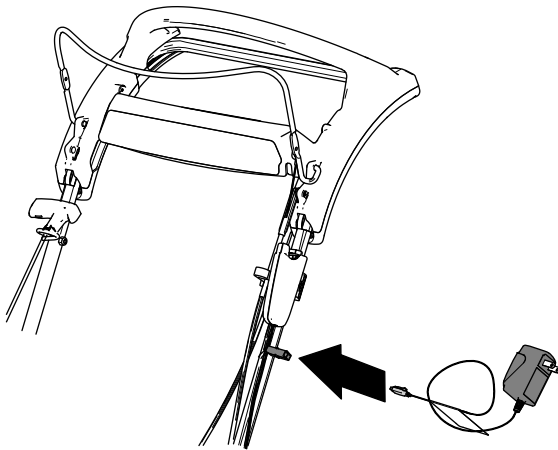

Figure 26
1. Connect the charger to the wire harness located below the electric-start button (Figure 26).